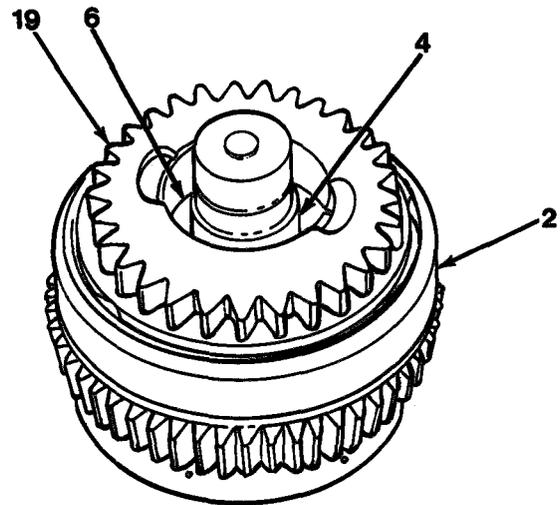

Figure 11-10
9. Install gear and hub welded assembly (19) onto clutch shaft assembly (2, Figure 11-10) and turn in both directions, alternately, while installing in order to align clutch plates. Measure height between shaft assembly (2) and face of gear on gear and hub welded assembly (19).
10. Remove gear and hub welded assembly (19) to check for alignment of all clutch plate teeth and any possible damage to teeth. If all clutch plate teeth were aligned to same height as measured in step 10, reinstall gear and hub welded assembly (19) onto clutch shaft assembly (2). If not, repeat step 10.